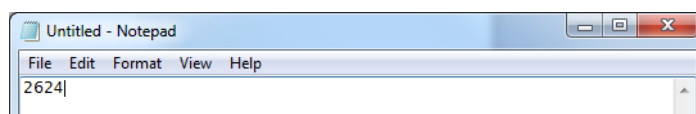

Figure 1 • Entering Factorial Values in Notepad
1. Open the notepad and enter the factorial of number 2,3,4 as 2,6,24 as shown in Figure 1.